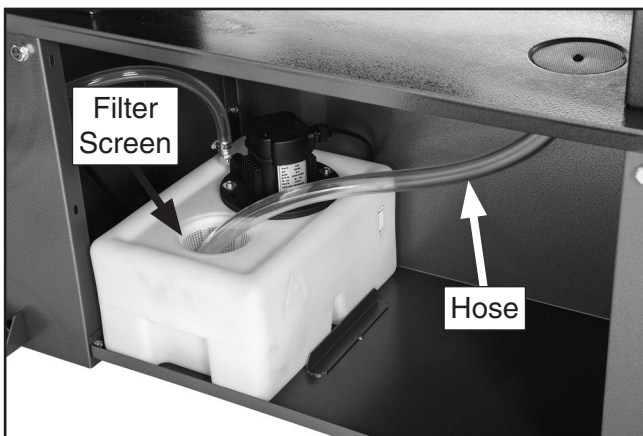

Figure 40. Filter screen and hose installed.
2. Place filter screen and drain tube into coolant tank, as shown in **Figure 40**.